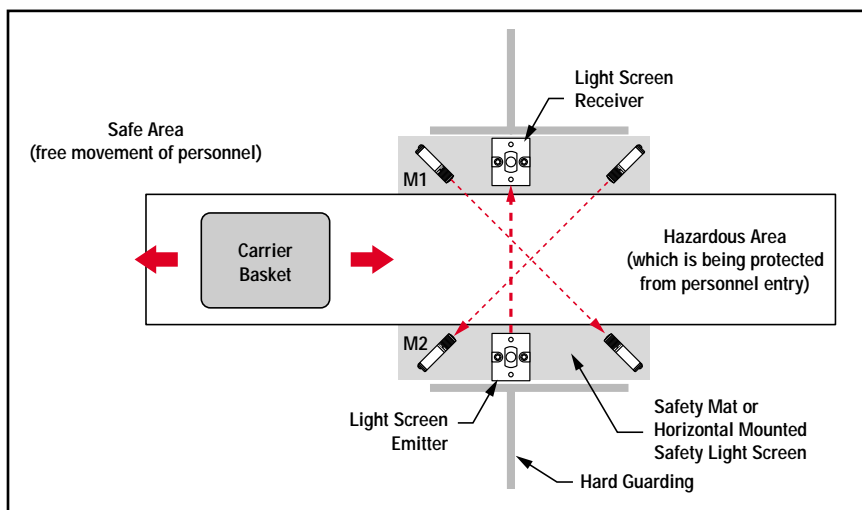

Figure C-1. "X"-Pattern Entry/Exit system using two pairs of opposed-mode photoelectric muting devices
- It must not be possible for an individual to block both photoelectric beams (dashed diagonal lines in Figure C-1) and initiate a mute condition. Check the installation to verify that unintentional muting is not possible. The "crossing point" of the photoelectric beams must be located in the hazardous area and not be accessible to personnel (by reaching over, under, through, or around).